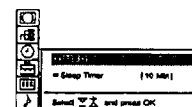

Fig. 33
- 1 Using  $\Delta+$  or  $\nabla-$  select the symbol  $\odot$  for "Timer" and press OK. The TIMER menu appears (see Fig. 33).